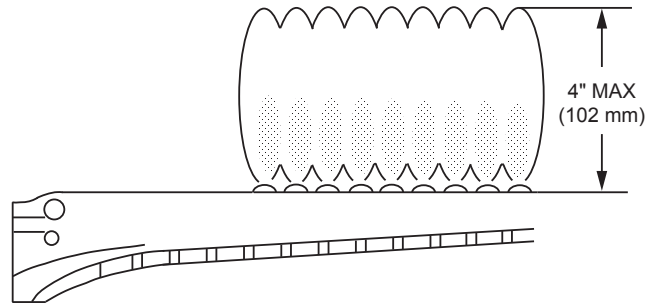

Figure 53. Main Burner Flame
4. Make visual check of the burner and pilot flames. Yellow flame means restriction of the air openings. Lifting or blowing flame indicates high gas pressure. Low flame means low gas pressure. Should the latter occur, shut the heater off and contact your gas supplier or qualified service agency. See **Figure 53**.